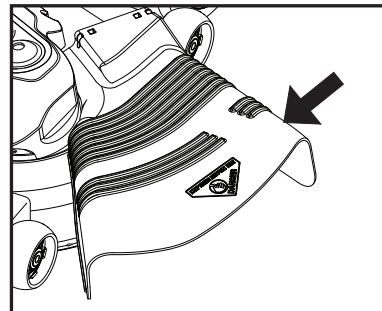

Fig. 9
CAUTION: Do not operate the mower without either the entire grass catcher, on mowers so equipped, or the deflector shield (S) in place (See Fig. 9).